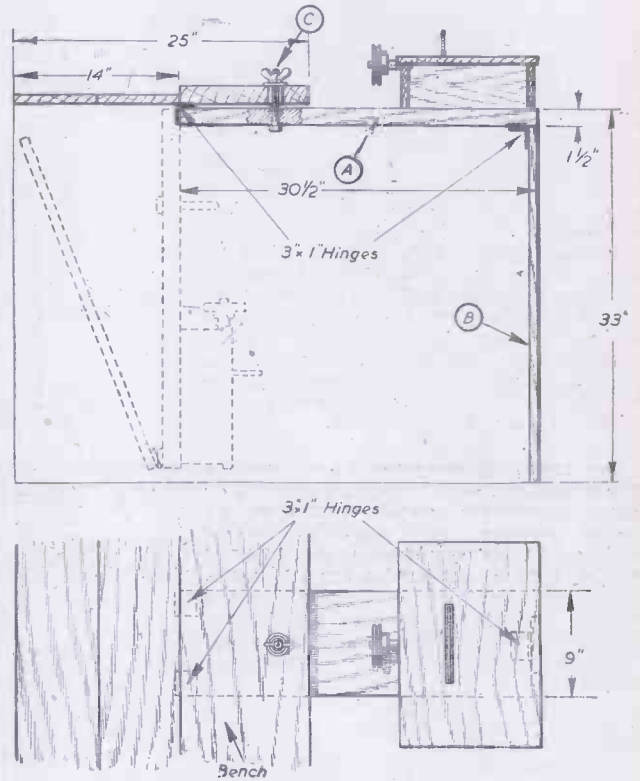

Fig. 1.—Side view and plan of the folding saw bench.
Fig. 1 shows the two positions.
cut to 31 $\frac{1}{2}$ in. long by 3in. or 4in. broad. The leg and support (A) can then be fixed in position as in Fig. 1.